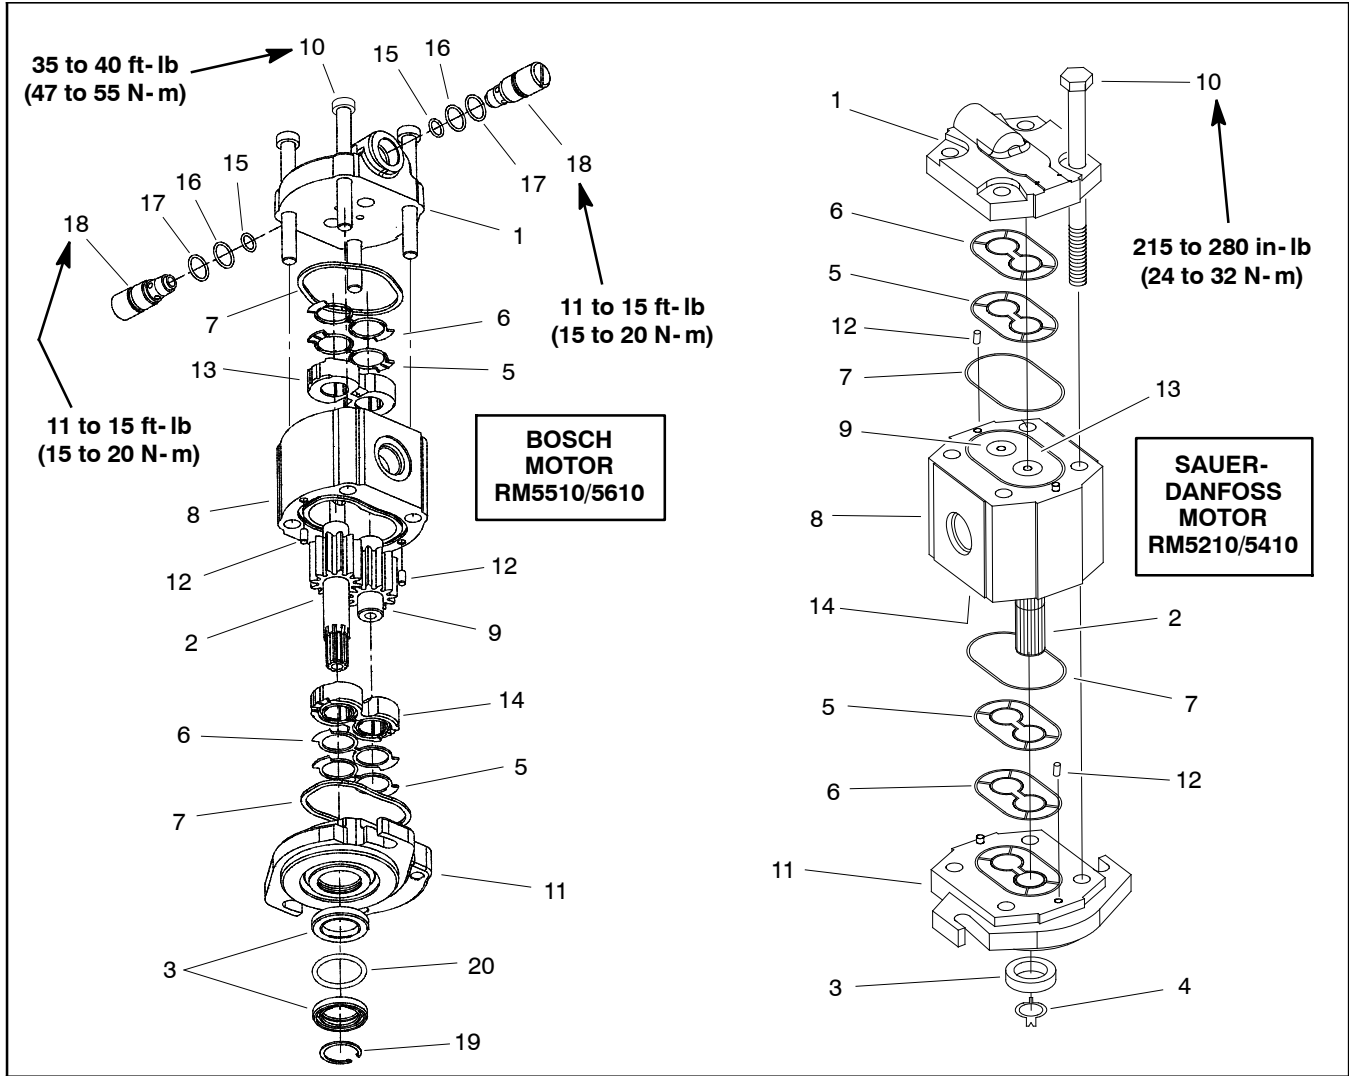
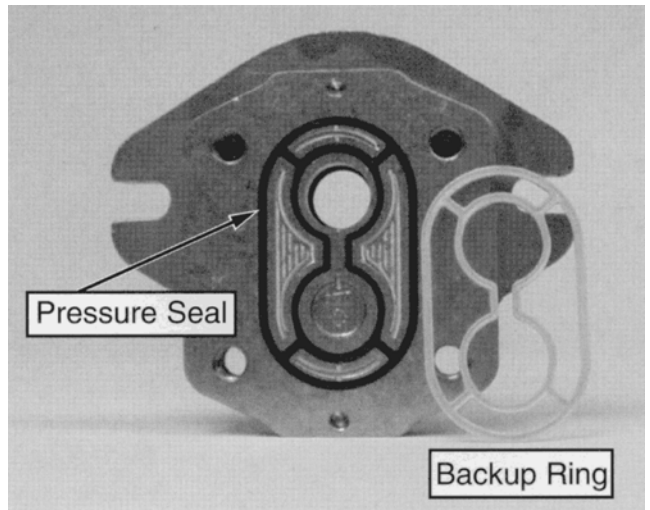

Figure 85
Figure 88
### Disassembly (Fig. 85)
**NOTE:** Pressure seals and back-up rings in Sauer-Danfoss motors fit in grooves machined into front and rear cover (Fig. 88). Pressure seals and back-up rings in Bosch motors fit in grooves machined into bearing blocks.
#### **Assembly (Fig. 85)**
11. Install the four (4) cap screws and hand tighten.
12. Place motor front flange in a vise and alternately torque the cap screws to the specifications identified in Figure 85.